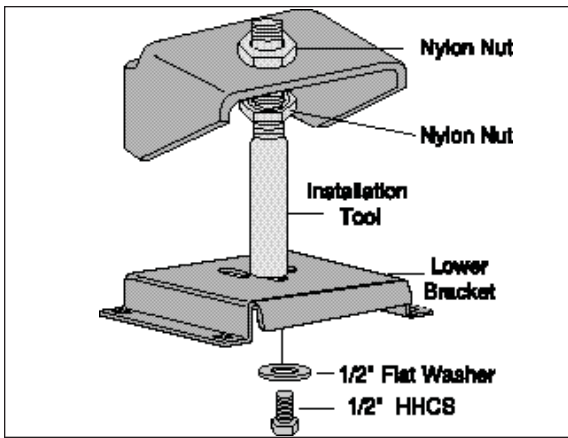

Figure 4
1. Secure the upper bracket (A) to the installation tool (M) using the provided nylon nut (L) (Figure 4).
2. Loosely attach the tool to the lower bracket (B) using  $\frac{1}{2}$ " flat washer (K) and  $\frac{1}{2}$ " bolt (J). Refer to Figure 4. Leave loose for adjustment.